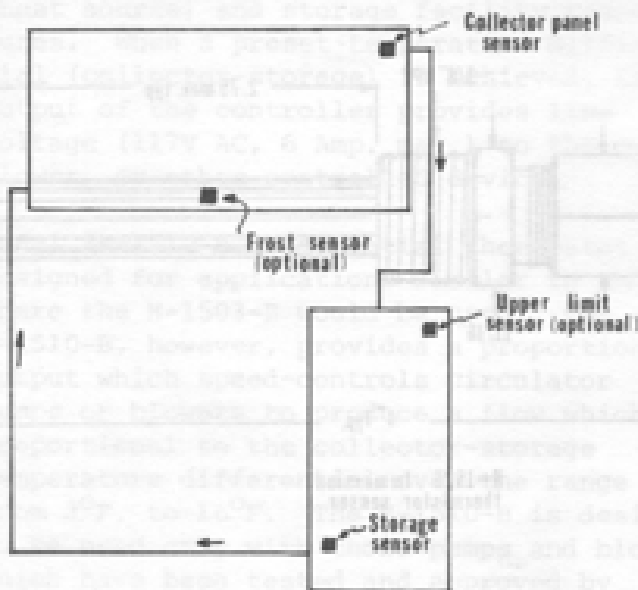

FIGURE 2
2. Install storage tank and collector panel sensors at locations shown in Figure 2. Storage sensor is mounted to sense the temperature of the lower portion of the tank and may be wedged beneath the lower thermostat mounting clip. The collector sensor should be mounted to the absorber plate against the output pipe.
- If optional recirculating freeze protection is to be used, mount H-1521 frost sensor at location shown in Figure 2 (one frost sensor on each collector panel) and wire in parallel with collector plate sensor. If optional upper limit protection is to be used, mount upper limit sensor (H-1515, H-1516 or #169) at location shown in Figure 2 and run leads to control.